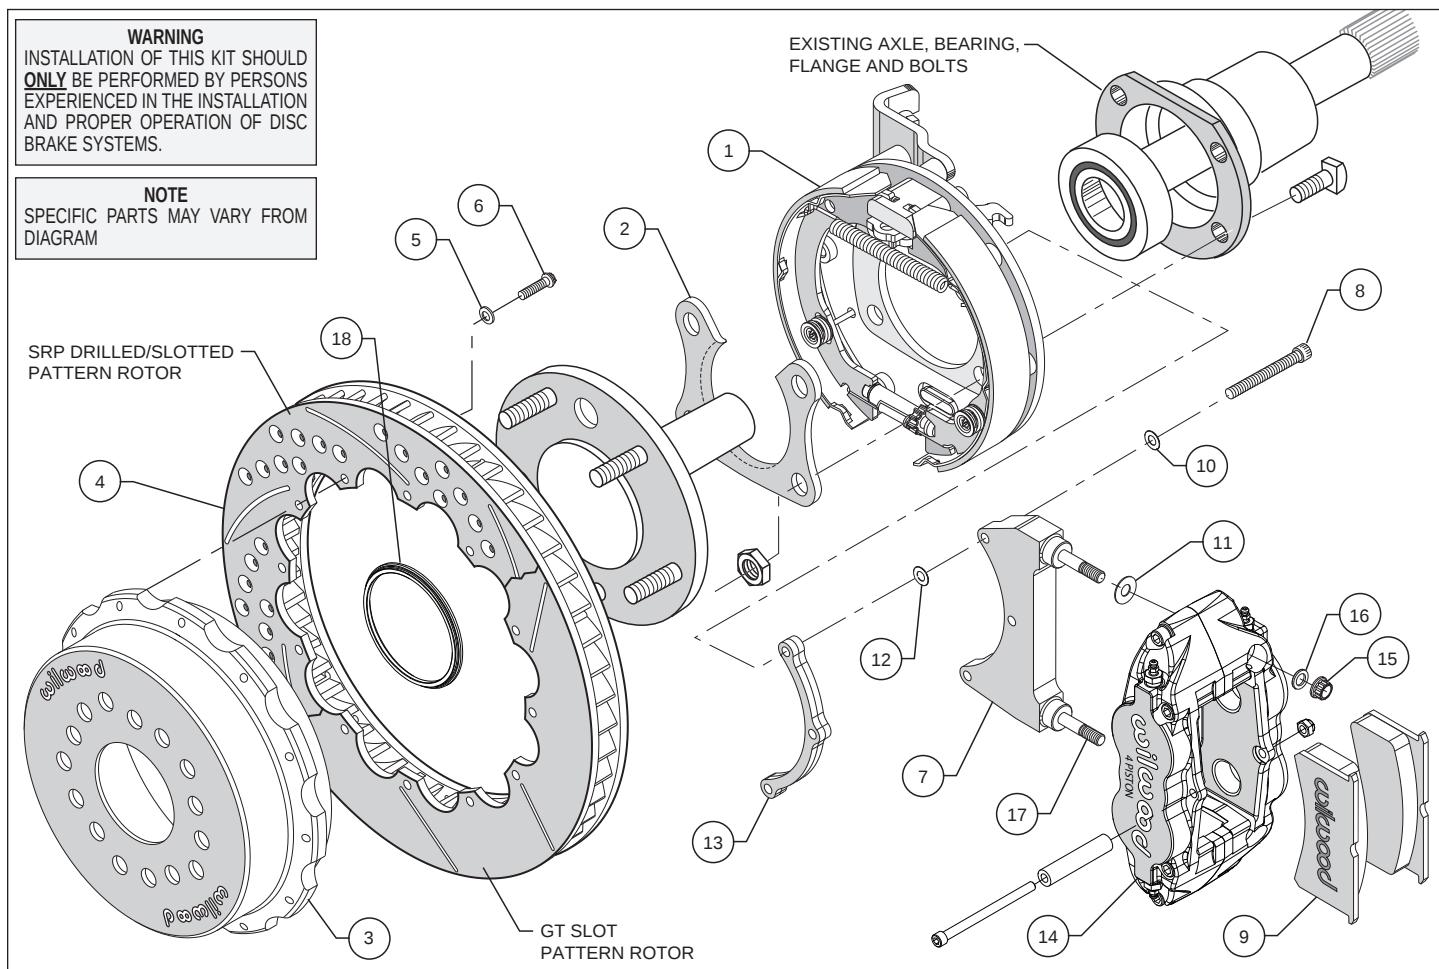

Figure 1. Typical Installation Configuration
- Slide the bracket kit assembly (1) onto the housing flange and then insert the axle assembly through the center hole of the bracket kit assembly (1). Align the bearing retainer (2), as shown in Figures 1 and 4, and secure using the stock Original Equipment Manufacturer (OEM) bolts and nuts. Stock OEM hex nuts that retain the bracket kit assembly (1) and retainer (2) should be on the wheel side of the bracket. Apply red *Loctite*® 271 to the stock OEM bolt threads and torque to OEM specifications. Make sure the bracket kit assembly (1) brake pads are FACING OUTWARD TOWARDS THE WHEEL.
The caliper mounting bracket assembly (7) should be installed first with clean, dry threads on the mounting bolts (8). Install the bracket from the rear side of the bracket kit assembly (1) by sliding bolt (8) through flat washer (10), bracket (7), shim washer (12) and finally through the spacer (13), see Figure 1. **NOTE:** End of bolt should not exceed inside face of insert. The bracket must tighten squarely against the back side of the bracket kit assembly (1). Inspect for interference from casting irregularities, machining ridges, burrs, etc. Use one thin shim (12) between the bracket (7) and spacer (13) during initial trial fitting.
•Install one shim (11) over each pre-installed stud (17) on the radial mount bracket (7). Slide the caliper (14) in place over the studs and rotor, then install the washer (16) and lock nut (15) to hold the caliper in place. Snug the lock nuts (15) and check that the rotor (4) is centered in the caliper (14). Add or subtract .015" shims (12) as necessary between the caliper mounting bracket (7) and the spacer (13) to center the caliper (14).
•Remove the caliper center bridge pad retainer bolt, nut, and tube from the caliper. Slide the brake pads (9) into place. They should install easily without interference. Check that the outside radius of the brake pad is aligned with the outside diameter radius of the rotor face. Add or subtract shims (11) between the caliper (14) and mount bracket (7) to gain the proper alignment. Reinstall the center bridge pad retainer tube, bolt, and locknut. The locknut should be snug without play in the bolt or tube. Be cautious not to over tighten.
•Adjust the parking brake shoes outward (using a drum shoe adjustment tool available at your local auto parts store) while spinning the hat (3) until a slight drag is felt against the hat/drum. Remove the lug nuts that were holding the hat/rotor in place. Install the wheel and lug nuts. Check to see that the wheel rotates freely without interference.
•Once all clearances have been checked, remove the wheel, caliper, hat/rotor from the bracket kit assembly (1). Secure the caliper mounting bracket (7) to the bracket kit assembly (1) using red *Loctite*® 271. Torque bolts (8) to 180 in-lb. Reinstall the hat/rotor assembly and again use lug nuts to hold it in place. Lubricate caliper mounting studs and nuts with lightweight oil, reinstall the caliper, torque the caliper nuts (15) to 30 ft-lb.
•**NOTE:** Clevis and cable kits which attach to the parking brake assembly are not included in the Wilwood parking brake kit. Wilwood offers a generic style parking brake cable kit, P/N 330-9371 for this application which can be ordered separately from your local Wilwood dealer or by calling Wilwood customer service at (805) 388-1188.